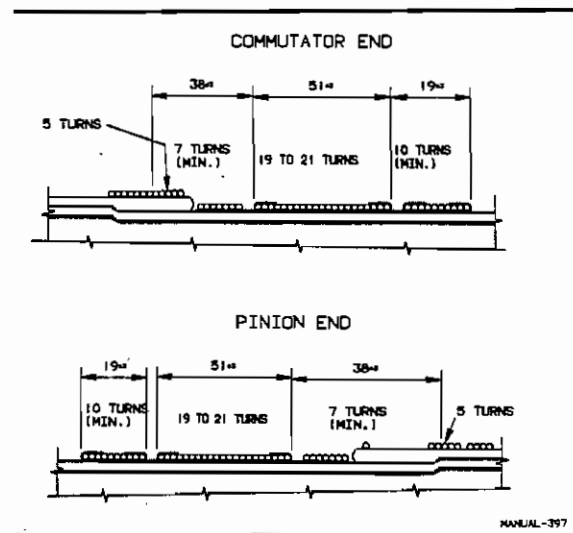

Fig. 50 - Armature Temporary Band Application
9. Continue turns of wire band, spaced approximately 9.5 mm to within 25 mm of commutator end of banding sticks. At this point, apply five turns of band wire side-by-side as shown in Fig. 50. Cross wire over this band to hold the tension, then drop down commutator end diamond sections and apply a minimum of seven turns within $38\text{ mm} \pm 3\text{ mm}$ of the core. Insert a temporary banding clip over the fish paper and under the next turn of wire. Make a 51 mm band of nineteen to twenty-one turns over the clip, as shown in Fig. 50. When inserting the banding clip, position clip so there will be a portion extending on either side of the band.
12. After completing the commutator end, return the wire band in wide spiral turns to the centre of the core maintaining 137 kg tension. Continue turns spaced approximately 9.5 mm apart to within 25 mm of the pinion end of the banding sticks. At this point apply bands side by side for at least five turns as shown in Fig.50. Cross wire over this band to hold the tension, then drop down to pinion end diamond section. Apply a minimum of seven turns approximately 38 mm of the pinion end of the core. Insert a banding clip over the piece of fish paper inserted in the surgical tape and under the next turn of wire. Make a band approximately 51 mm wide of nineteen to twenty-one turns over the clip. Bend up one end of the clip and insert a second clip for a band approximately 19 mm wide of at least ten turns. When necessary tap down coils lightly using a 0.454 kg rawhide mallet.